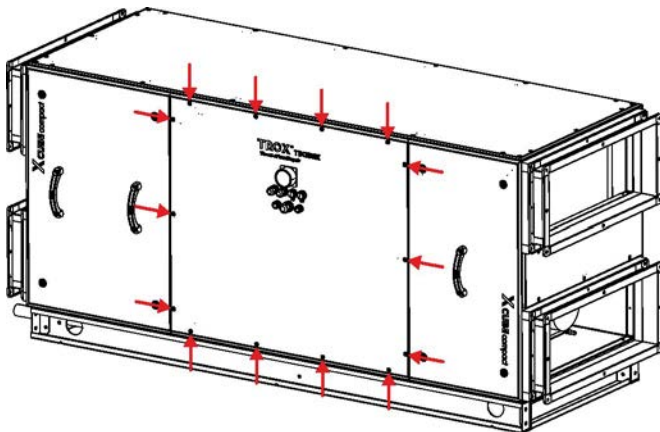

Fig. 54: Inspection access panel in the middle
- ▶ Loosen the screws (Fig. 54/arrows) of the inspection access panel in the middle.